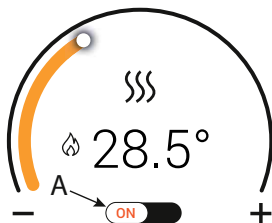
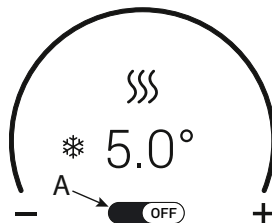

fig. 4- Heating function active
fig. 5- Heating function not active
By touching the control “A” (fig. 4 and fig. 5) it is possible to enable (ON) or disable (OFF) heating.